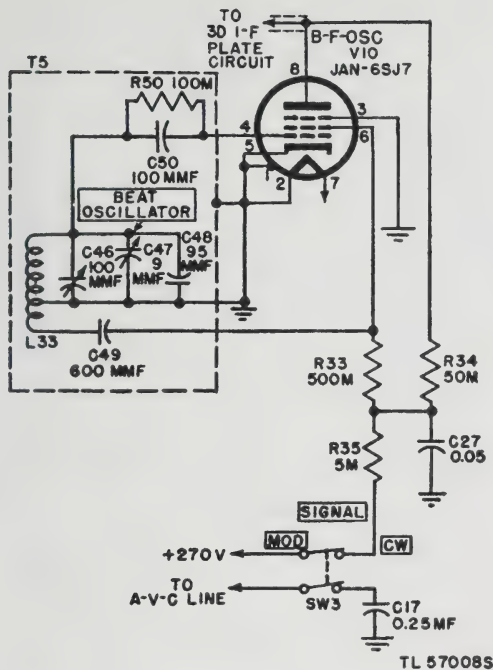

Figure 32. Radio Receiver BC-779-B, functional diagram of beat-frequency oscillator.
e. A-V-C OPERATION. With the AVC-MANUAL switch at AVC, the a-v-c control voltage is obtained from the junction of R52 and R19 and applied to the r-f stages and the first two i-f stages through the AVC-MANUAL switch and the i-f filter consisting of 1-meg resistor R52 and 0.05-mf paralleled capacitors C56 and C18B. This resistor-capacitor combination establishes the time constant of the a-v-c circuit. The grid resistors and capacitors in the controlled r-f and i-f stages also affect the time constant. The 2-meg resistor, R19, provides an interconnection between the avc and the fixed bias circuit. The SENSITIVITY control can therefore be used to adjust the gain of the receiver during a-v-c operation. This feature is very helpful in a noisy location. When avc is used for c-w code reception, a longer time constant is desirable and is secured by adding a 0.25-mf capacitor C17 in parallel with C56 and C18B. This additional capacitor is connected to one pole of the SIGNAL MOD-CW switch, SW3 (fig. 32), which controls the beat oscillator. Therefore, when the beat
66. Beat Frequency Oscillator (fig. 32)